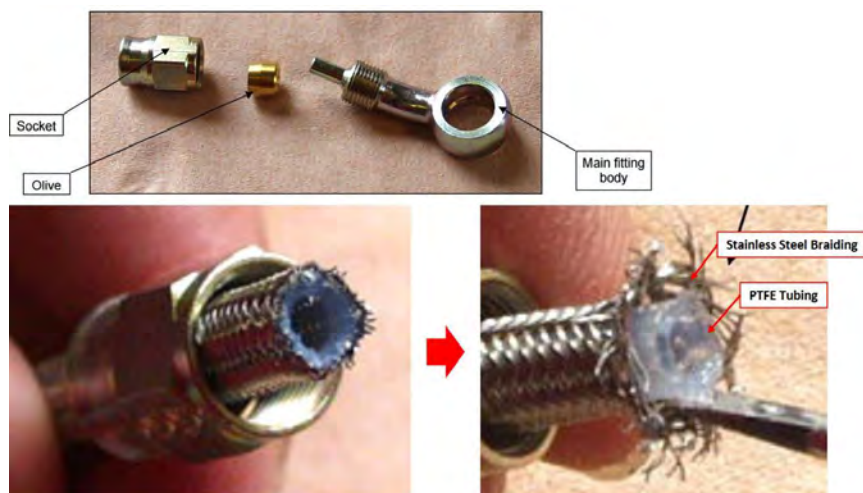

FIGURE 14-16
3. Disassemble hose end fitting into its component parts, socket, olive, and main body (see Figure 14-16 for example using a banjo fitting).
5. Use a small slot-head screwdriver to flare out the stainless steel braid at the end of the hose, separating them from the hose's PTFE inner liner for a length of .2 inches minimum (see Figure 14-16).